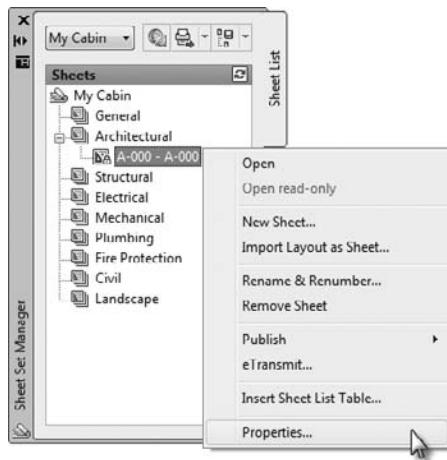

FIGURE 14.38 Accessing the properties for an individual sheet, to replace its default name, in Sheet Set Manager
4. The A-000 layout tab imports into the Sheet Set Manager sheet list with the generic name A-000 - A-000, as shown on the left in Figure 14.38. For the layout to be useful in Sheet Set Manager, you'll need to provide a more meaningful sheet number and title.
From the Sheet List palette in Sheet Set Manager, right-click on the A-000 - A-000 sheet and choose Properties as shown on the right in Figure 14.38.